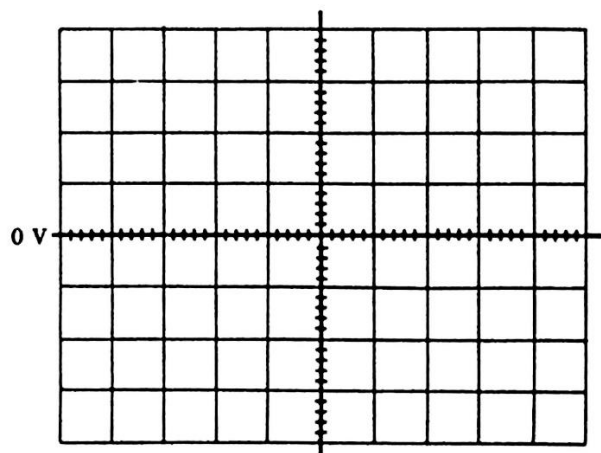

Figure 3.3a
4. Sketch $v_I(t)$ and $v_O(t)$ on Fig. 3.3a.